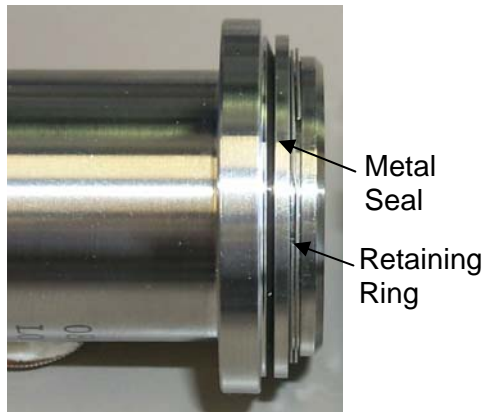

Figure 5.- Slide Gamah Nut Back to Expose Retaining Ring and Metal Seal.
- 4.4 Slide Gamah Nut back to expose Retaining Ring and Metal Seal. Refer to Figure 5.